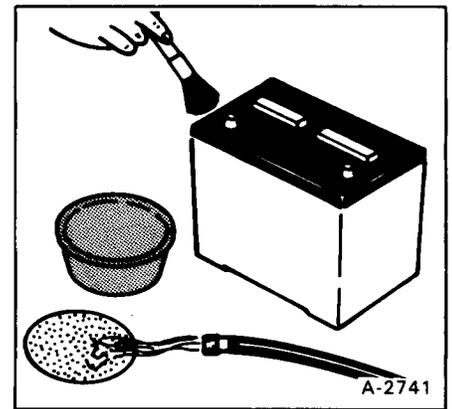

Fig. 58 Cleaning Battery
1. Check to see that the battery cables are clean and tight. Remove any acid or corrosion from the battery and cables with a baking soda and water solution (Fig. 58). Cover the terminals with Clark Battery Saver to prevent corrosion. Install the covers on the terminals.